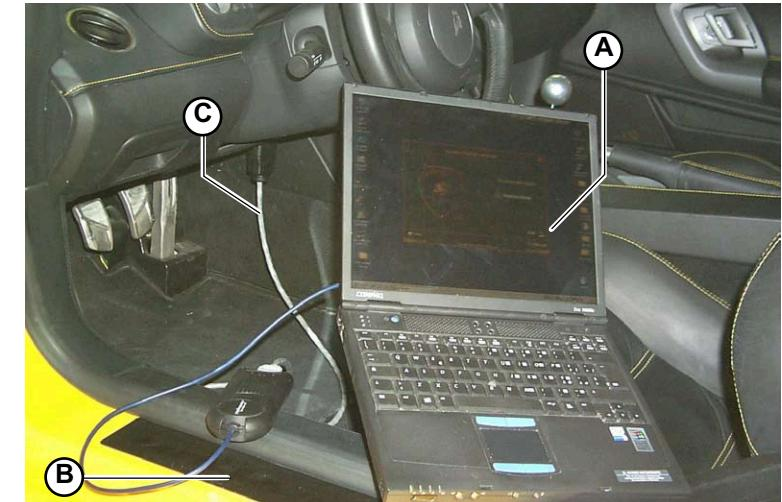

Fig.1
- Switch on the PC (A-Fig.1);
- connect the adapter (B-Fig.1) to the PC parallel port;
- connect the adapter to the OBDII connector (C-Fig.1) in the car, located on the right of the steering column.